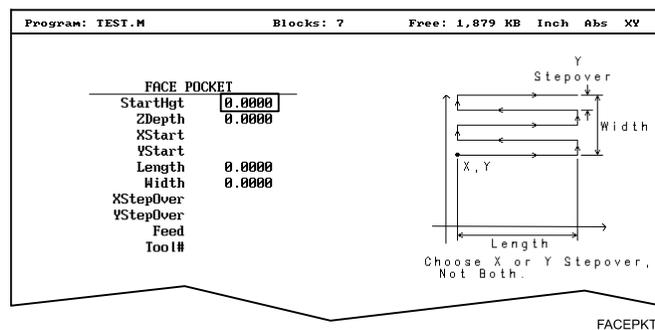

Figure 5-11, FACE POCKET Graphic Menu
2. Move the highlight to select **Face**, and press **ENTER** to display the **FACE POCKET** Graphic Menu. Refer to **Figure 5-11**.